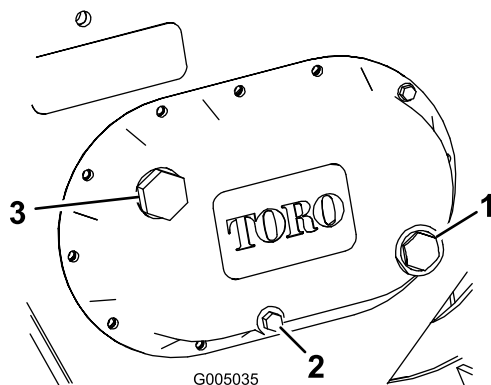

Figure 14
3. Check the clear glass gauge on the side of the gear case (Figure 14). The gear lube should be at the level of the red dot in the center of the gauge.
4. If the gear lube level is low, remove the fill plug (Figure 14) and fill the case with gear lube until it is level with the red dot in the gauge.
4. Remove the drain plug (Figure 14), allowing the oil to spill out into the container.
6. Remove the fill plug (Figure 14) and fill the case with gear lube until it is level with the red dot in the gauge.